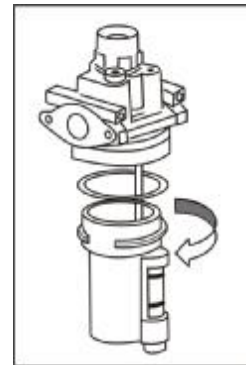

Fig.38
- l Check the oil level in the oil cup regularly. If the oil level does not reach the second line, fill SAE#20 (Fig.38).